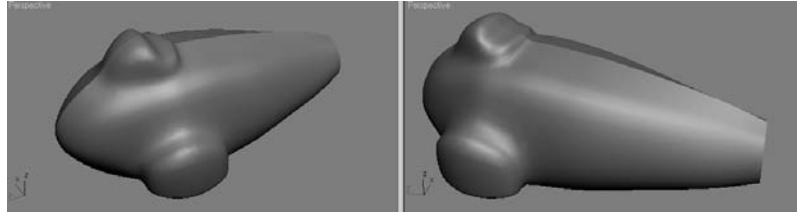

Figure 5.49
13. Let's look at this rocket body smoothed. Go to the Subdivision Surfaces rollout and check Use NURMS Subdivision to smooth the model again. It should look like the graphic shown in Figure 5.49.